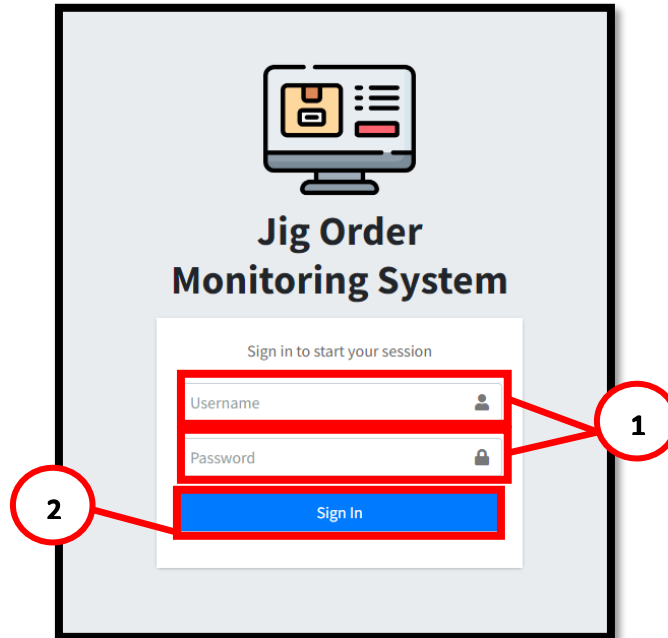

Figure 3.0
1. Enter **Username and Password** (See Figure 3.0).
2. Click **Sign In** button to access Main Form (See Figure 3.0).